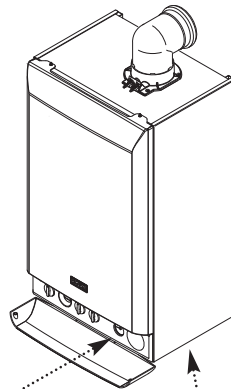

Fig. 4
4. Look underneath the right hand side of the boiler to identify and locate the "Easy-Fill" link (Fig. 4).